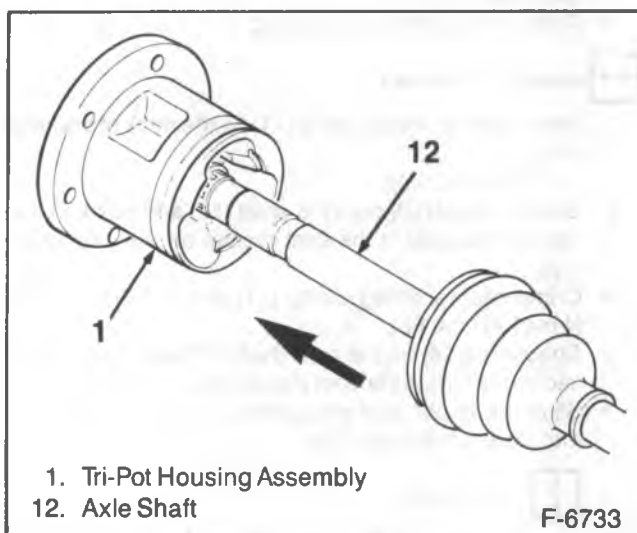
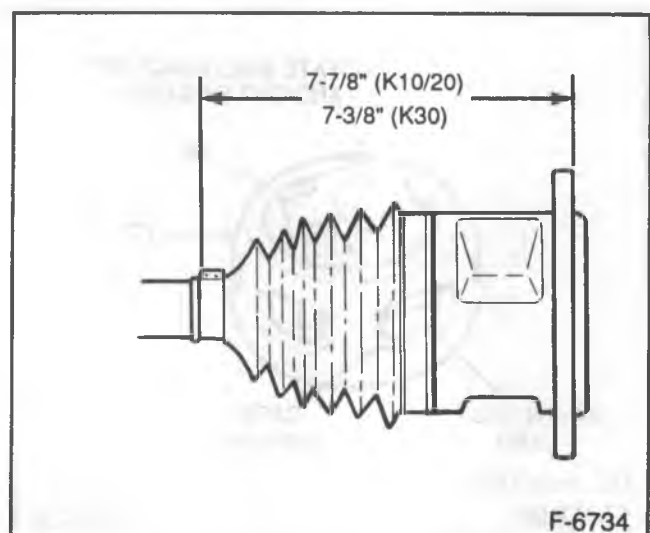

Figure 53—Installing Tri-pot to Housing
Figure 54—Tri-pot Seal Installation Measurements
4. Shaft retaining ring (2) in the groove of the axle shaft (12) with J 8059.
- Slide the tri-pot spider (3) towards the end of the shaft (12) and reseat the spacer ring (8) in the groove on the axle.
- Place approximately half of the grease provided in the seal (10) and use the remainder to repack the tri-pot housing (1).
- Pinch the swage ring (9) by hand slightly to distort it into an oval shape and slide it onto the large diameter of the seal (13).
- Slide the tri-pot housing (1) over the tri-pot spider assembly on the shaft (12) (figure 53).
- Slide the large diameter of the seal (10) with the large swage ring (9) in place over the outside of the tri-pot housing (1) and locate the lip of the seal in the housing groove.
- Position the tri-pot assembly at the proper vehicle dimension as shown in figure 54.